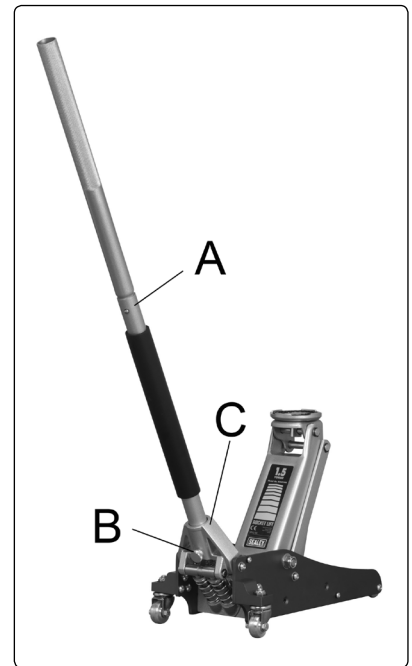

fig.1
- 4.1.1. Assemble handle by sliding the two parts together and rotating until the locking pin clicks into position. fig.1A. Partially unscrew knurled nob fig1.B until handle slides fully into socket fig.1C. Tighten Knurled nob to lock handle in place.